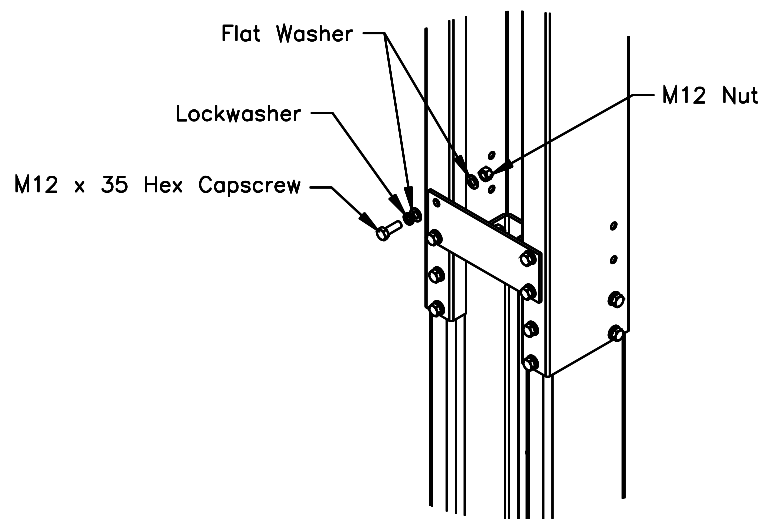

Fig 2 - Column Extension
- 2) Assemble column extension and cross strap to each column using (12 sets) M12 x 35 Hex bolts, flat washers, lock washers and nuts. Repeat for opposite column and extension. (Note: When set in lower position only 8 sets of hardware are used). Refer to **Fig 2** below.